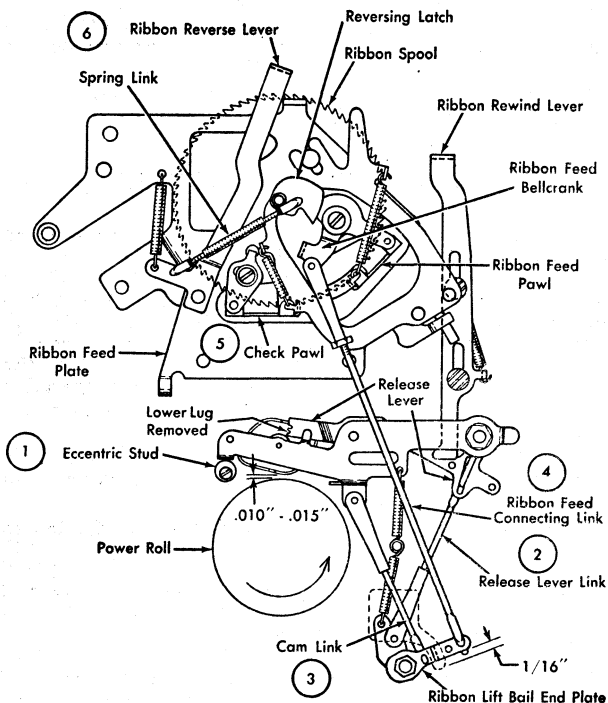

Figure 60. Ribbon Feed Mechanism
2. **THE CAM RELEASE LEVER LINK** (Figure 60) should be adjusted so that the cam will be released when the type face is approximately $3/4$ " from the platen.